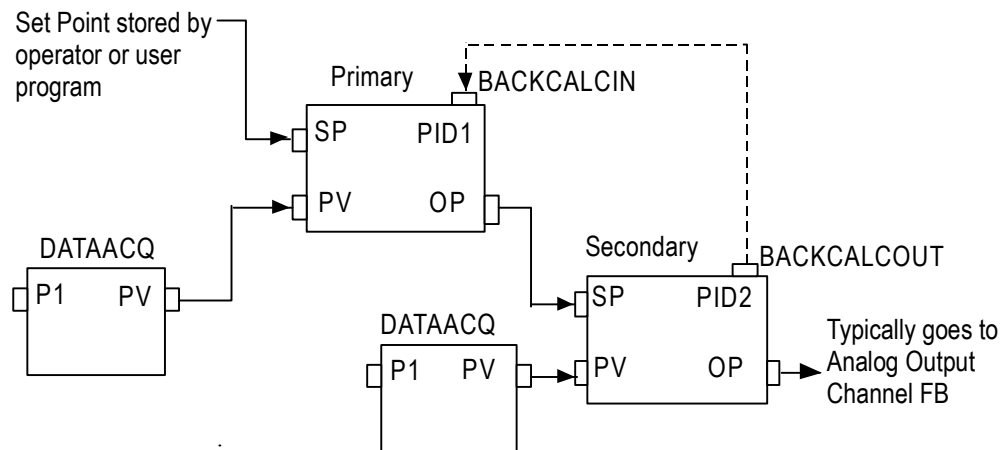

Figure 17 Functional block diagram of typical PID cascade operation.
This scenario is based on the functional block diagram of a typical cascade loop shown in Figure 17 and it assumes the following:
- Both PID1 and 2 pull PV from Data Acquisition (DATAACQ) function blocks as shown in Figure 17.